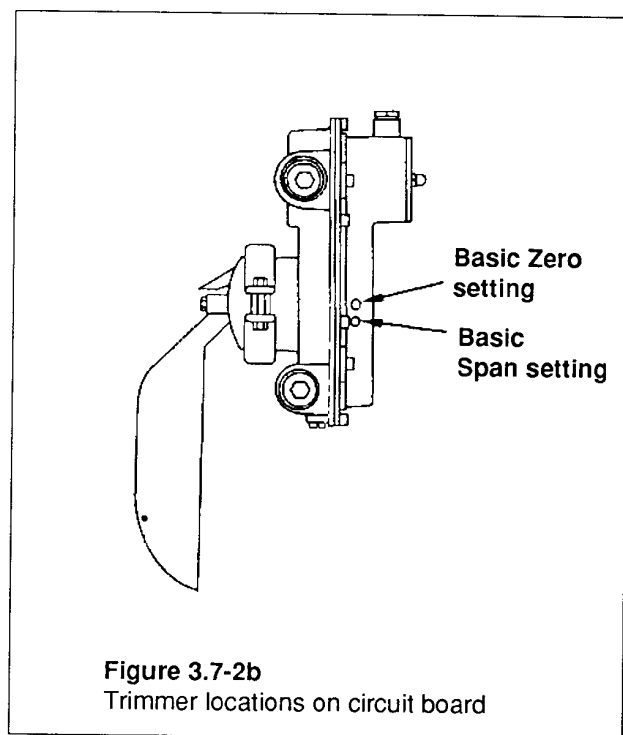

Figure 3.7-2b
3. Move the sensor blade upwards. The output should be less than 4 mA (min. 3.5 mA) for 2-W system or 0 mA for 3-W system. If not, adjust the ZERO trimmer on the component board (Fig. 3.7-2b) as required.
5. Place 800 g weight on the weight holder. The output should be 18.5 to 20 mA. If not, adjust the electrical SPAN trimmer (Fig. 3.7-2b) for this range.